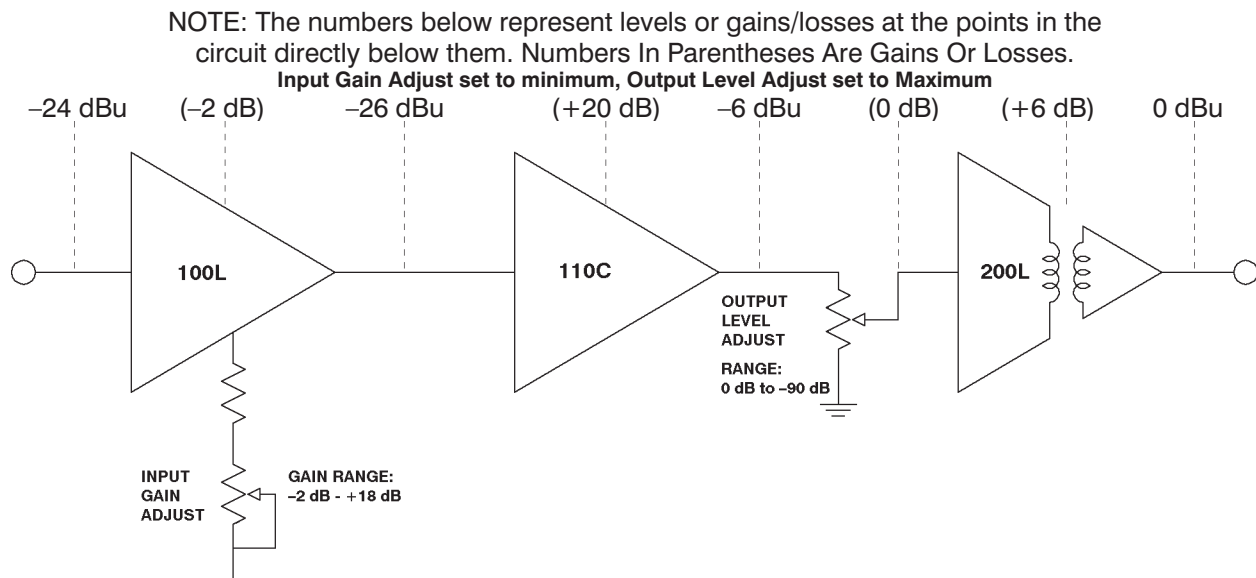

Figure 2 - Gain Structure
1. Locate a proper slot in the mainframe. Mainframe slots are set up on the rear panel of the mother board according to the card type to be used. Slots are dedicated by installing the proper trimpots. Trimpots **MUST** be installed as indicated in Figure 2 and 3 for inputs and outputs to function. Microphone level inputs require 200 $\Omega$  trimpots. All others require 10 k $\Omega$  trimpots. Slots labels are applied at the factory above each slot position. Single input cards such as the 5101C, 5101C-8, and the 5151C, are labeled 'SPECIAL', as are any specially made cards. With the exception of the SPECIALS, cards may be inserted in any slot with a matching label.
The gain structure diagrams in Figures 2 - 5 show the signal levels and gains or losses at key points in the cards. Since all inputs on a card behave identically, only one input is shown in the diagrams. In the examples the Input Gain Adjust pots were set for minimum gain (fully counterclockwise), and the Output Level Adjust pots at maximum output (fully counterclockwise). The levels and gains shown are those required to produce an output level of 0 dBu.